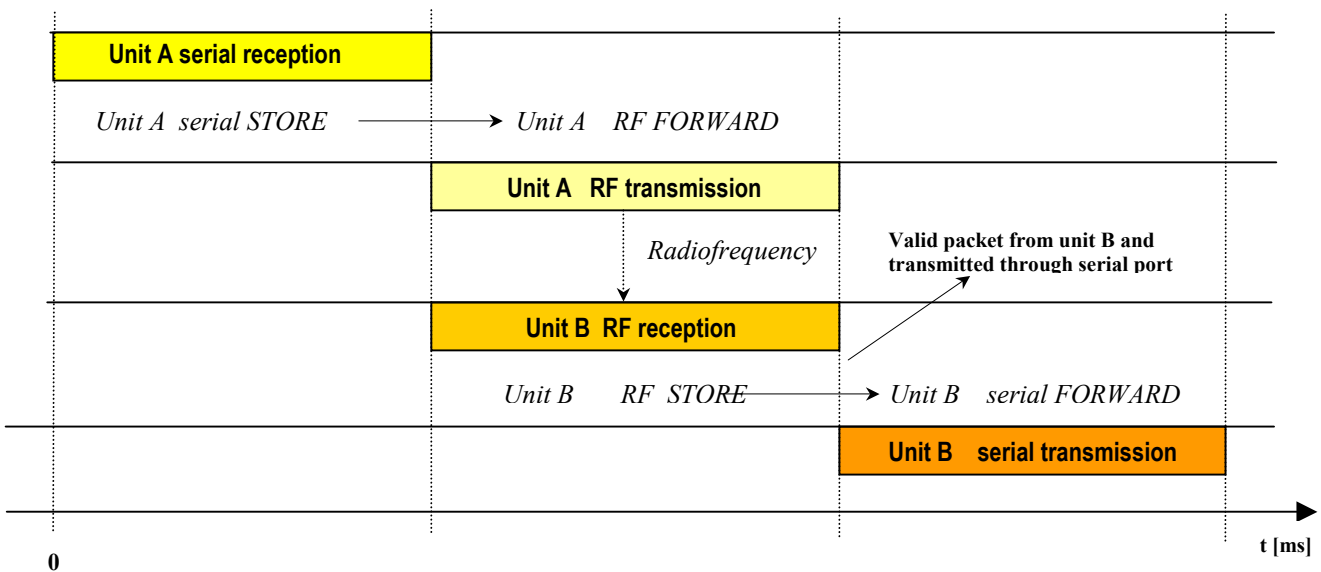

Fig. 3: Store & Forward mechanism
- Unit B RF reception / Unit B serial transmission [Fig. 3]
As shown by the Fig. 3 time diagram, the time interval, from the starting moment (instant 0) when the data reaches the module's port, to the moment when it is received by the remote module, is the function of the number of Bytes that form the packet and of the serial speeds used for the reception as well as for the transmission.